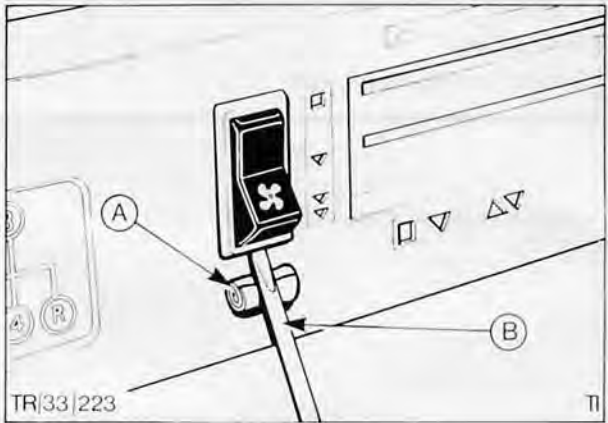

Fig. 87. Lever switch from panel
3. Using a small electrical screwdriver, pivoting on protective material, prise switch from its bezel location, Fig. 87.